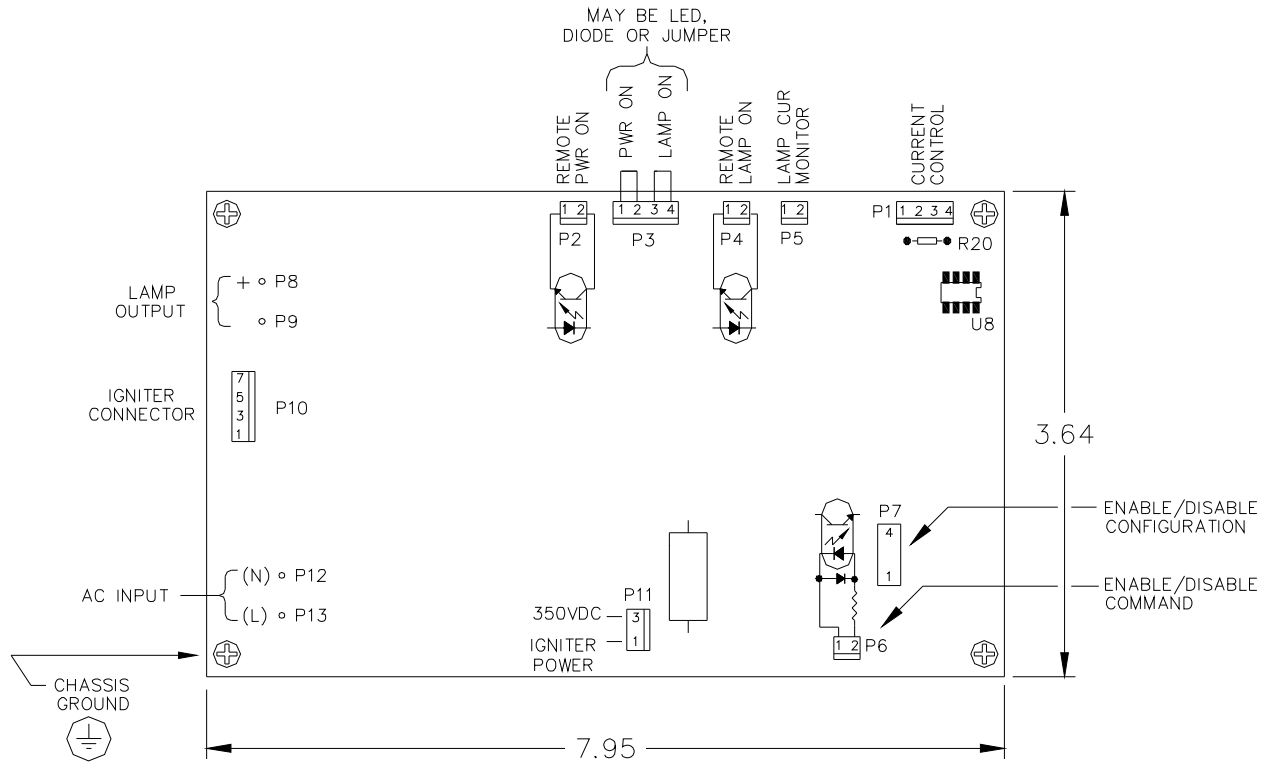
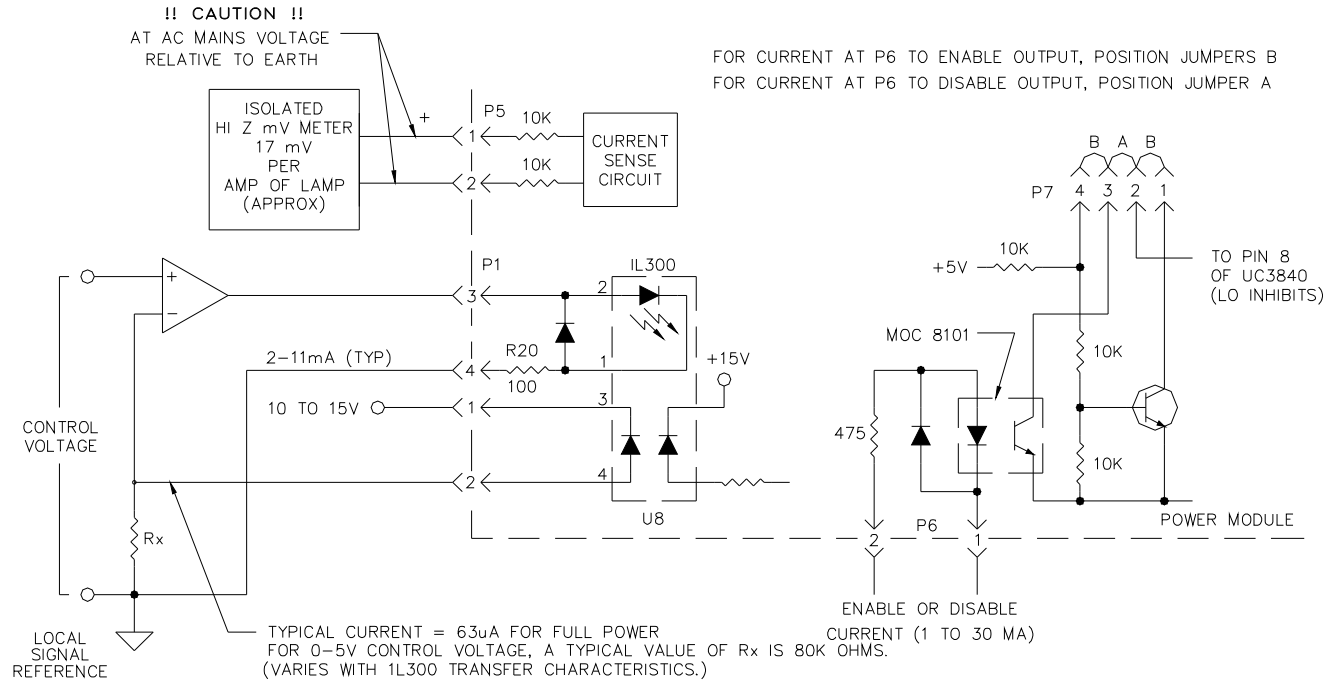

FIGURE 2
FIGURE 3
AC mains power is connected at P12 (N) and P13 (L) as identified in Figure 2. Earth ground must be connected to chassis at the location identified by the ground symbol. The AC terminals are not intended for field wiring. As noted on the label, input voltage is 230VAC nominal and 50 to 60 Hz.* EN60601-1 requires that both line and neutral be fused. Therefore, a 30A fuse and fuse block must be installed in series with both high and low sides of the mains. Recommended part numbers necessary to retain safe operating conditions are:
Figure 3 illustrates the control circuit interface for both enable/disable and current demand. The Model 591A CW power module is designed for lamp operation with output currents from 3-30 amperes. Current demand is achieved by controlling the current through the forward diode of the IL300 linear optocoupler (U8). Each 591A module is calibrated to provide 3A of lamp current with 2mA of forward diode current and 30A of lamp current with 11mA of forward diode current. Operation within this range is linear with a 1mA change in forward diode current producing a 3A change in lamp current. Forward diode current through the IL300 linear optocoupler can be sensed by monitoring the voltage drop across R20 and dividing this value by 100Ω. Jumpers at P7 are connected as shown to configure the input from P6 as an enable or a disable command. The current sense circuitry is accessed via P5 and connects to a high impedance meter which reads approximately 17mV per ampere of lamp current. The opto-isolated remote status as shown in Figure 2 is available at P2 and P4.